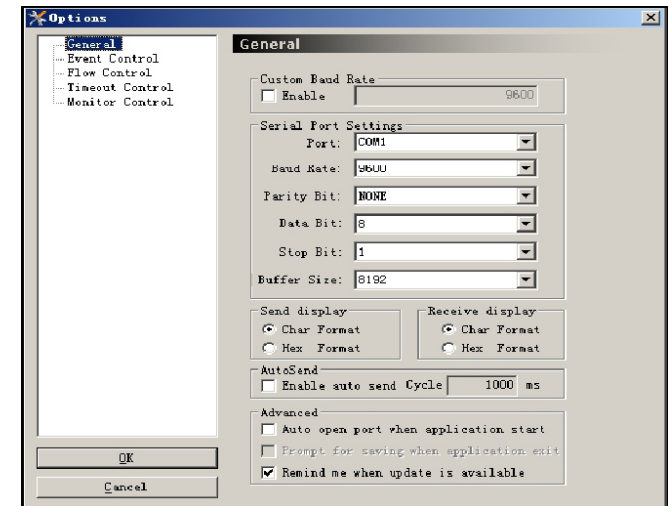

Fig.2
- D. Single click the tool on menu column parameter optional dialogue column, then set the parameter (Fig.2). Choose the port: COM1 or COM2 which correspond to the port line.